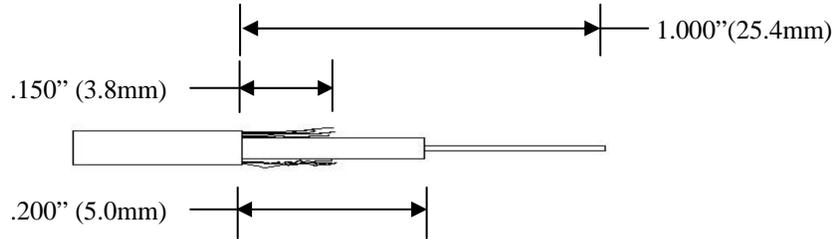

Figure 1: Style 1 Socket Terminus Strip Lengths
2. Strip cable Jacket and cut strength member to specified length (See figures 1 and 2 for recommendations).
3. Strip buffer off fiber to specified length (see fig. 1 and 2).